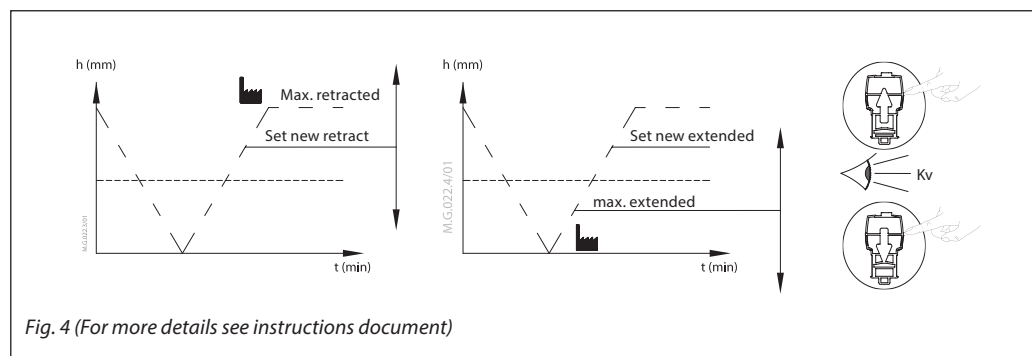

Fig. 4 (For more details see instructions document)
**DIP5: 100%/95% – Stroke limitation (fig.4):**